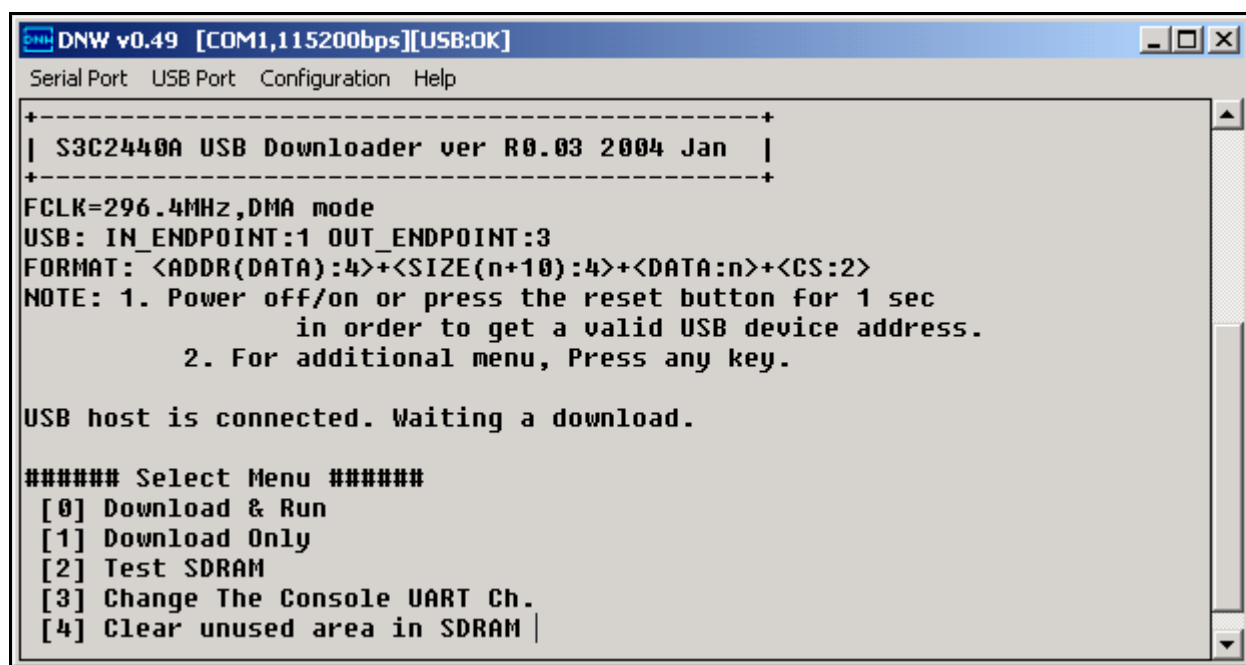

Figure 5-3 DNW Window After Board Power ON
5. Switch ON the board and press any key. The DNW application window will now appear on your screen as shown below in the figure 5-3.